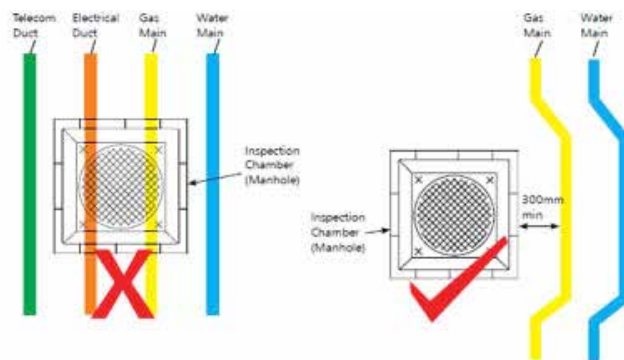

Figure 7: Safety precautions with regards to inspection chambers
- A distance of 300mm shall be provided when a gas main is placed adjacent to an inspection chamber (see Figure 7 below).